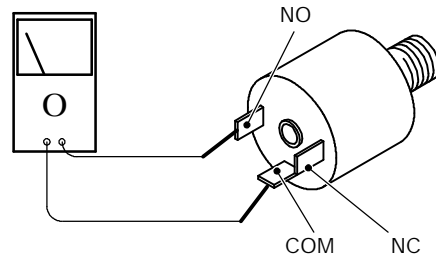

fig. 78
- 2 disconnect the connectors to the pressure switches and measure the electrical resistance between the connections (fig. 78).